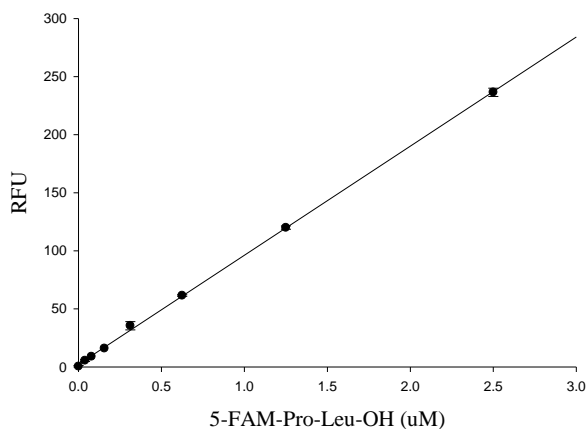

Figure 2. The reference standard curve
- Plot 5-FAM fluorescence reference standard as RFU (relative fluorescence unit) versus concentration as Figure 2.